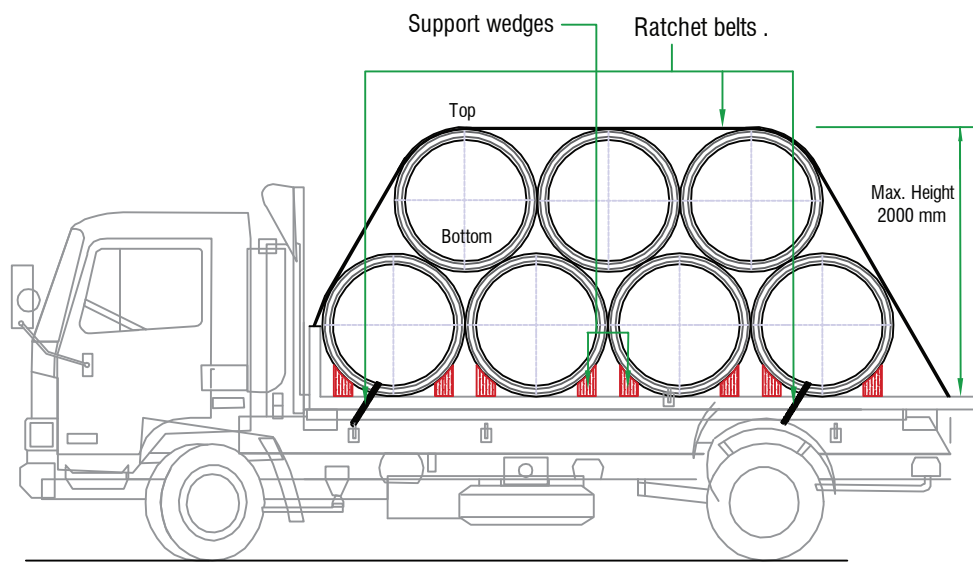
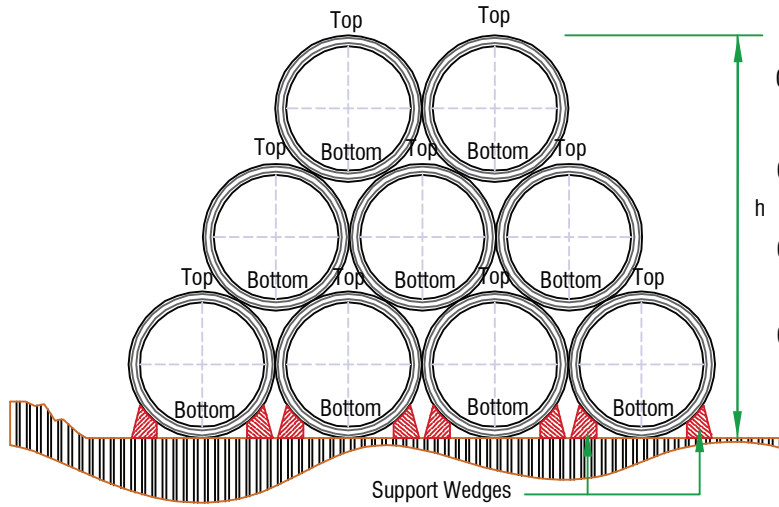

Fig.01 - Correct loading method for transportation.
Fig.02 - Corrected method for stacking.
- 01). During the transportation, stacking, handling & placing of pipes they should be oriented the top and bottom in vertical axis. (fig.01 , fig.02)
- 03). Put the support wedges to both longitudinal side in all bottom pipe Layer to avoid the accident slipping or moving issues. (fig.02)